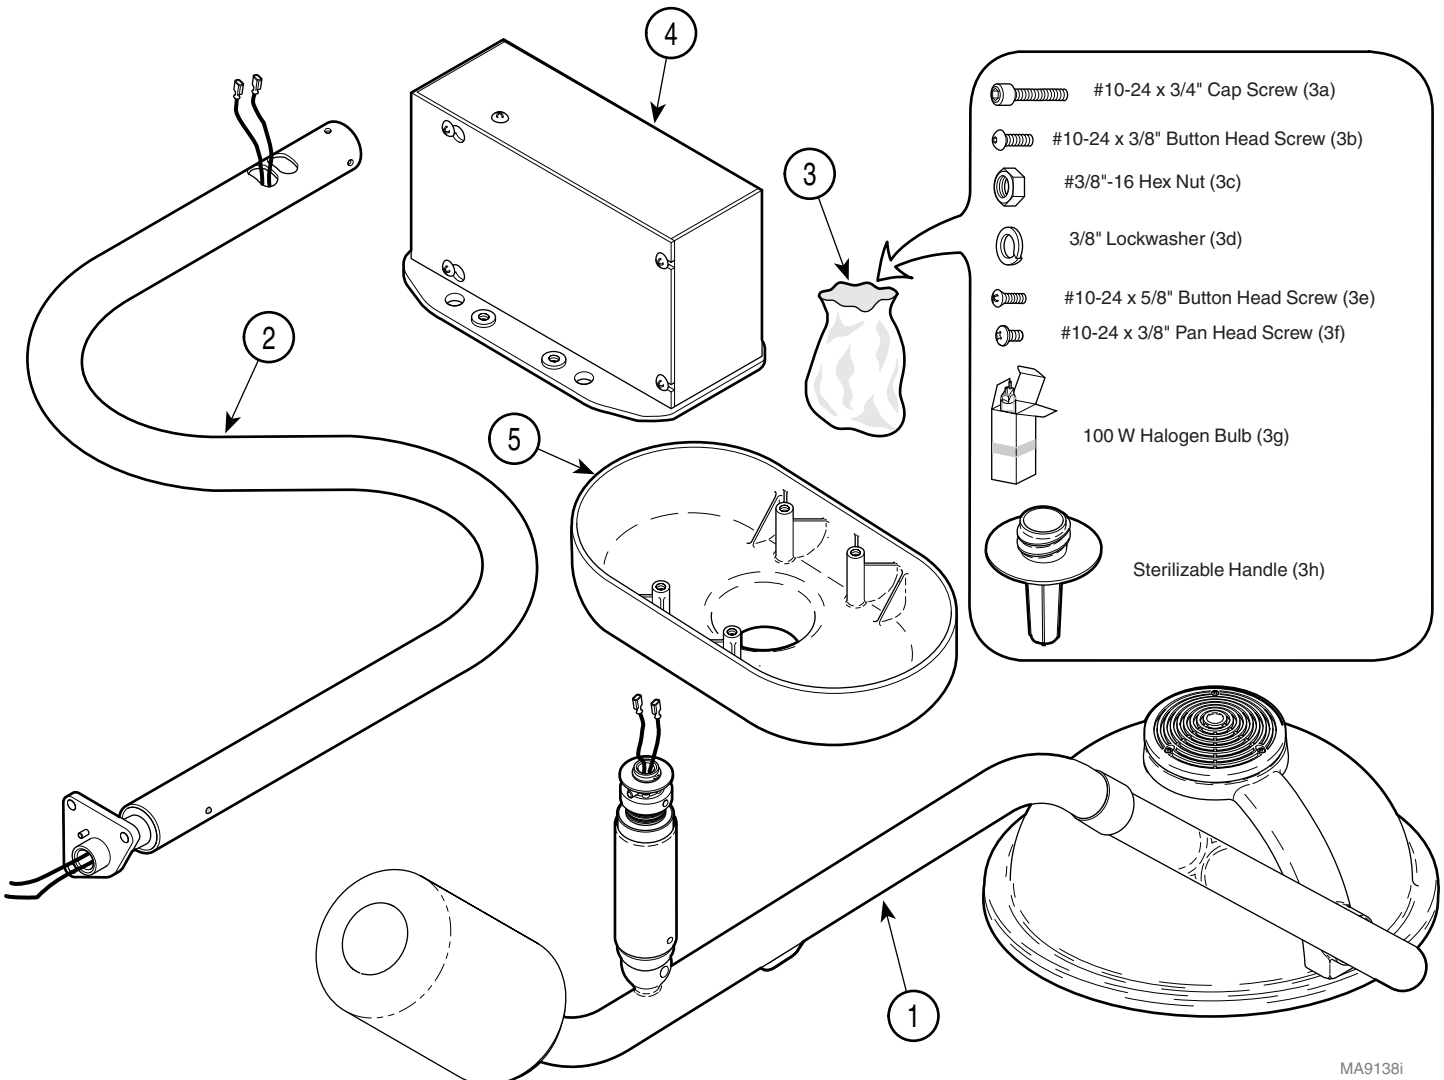

Figure 2. Components Unpacking and Inventory
Below is a list of all the items which should be included in the shipping box(es). The first quantity indicates the number of items which should be present for a single lighting assembly while the second quantity indicates the number of items which should be present for a dual lighting assembly (Refer to Figure 2).
2. Remove one/two cross tube/lighthouse assembly (1, Figure 2) and inspect.
3. Remove one/two down tube assembly (2) and inspect.
4. Remove one/two bag(s) (3) and inventory contents; the following items should be included: